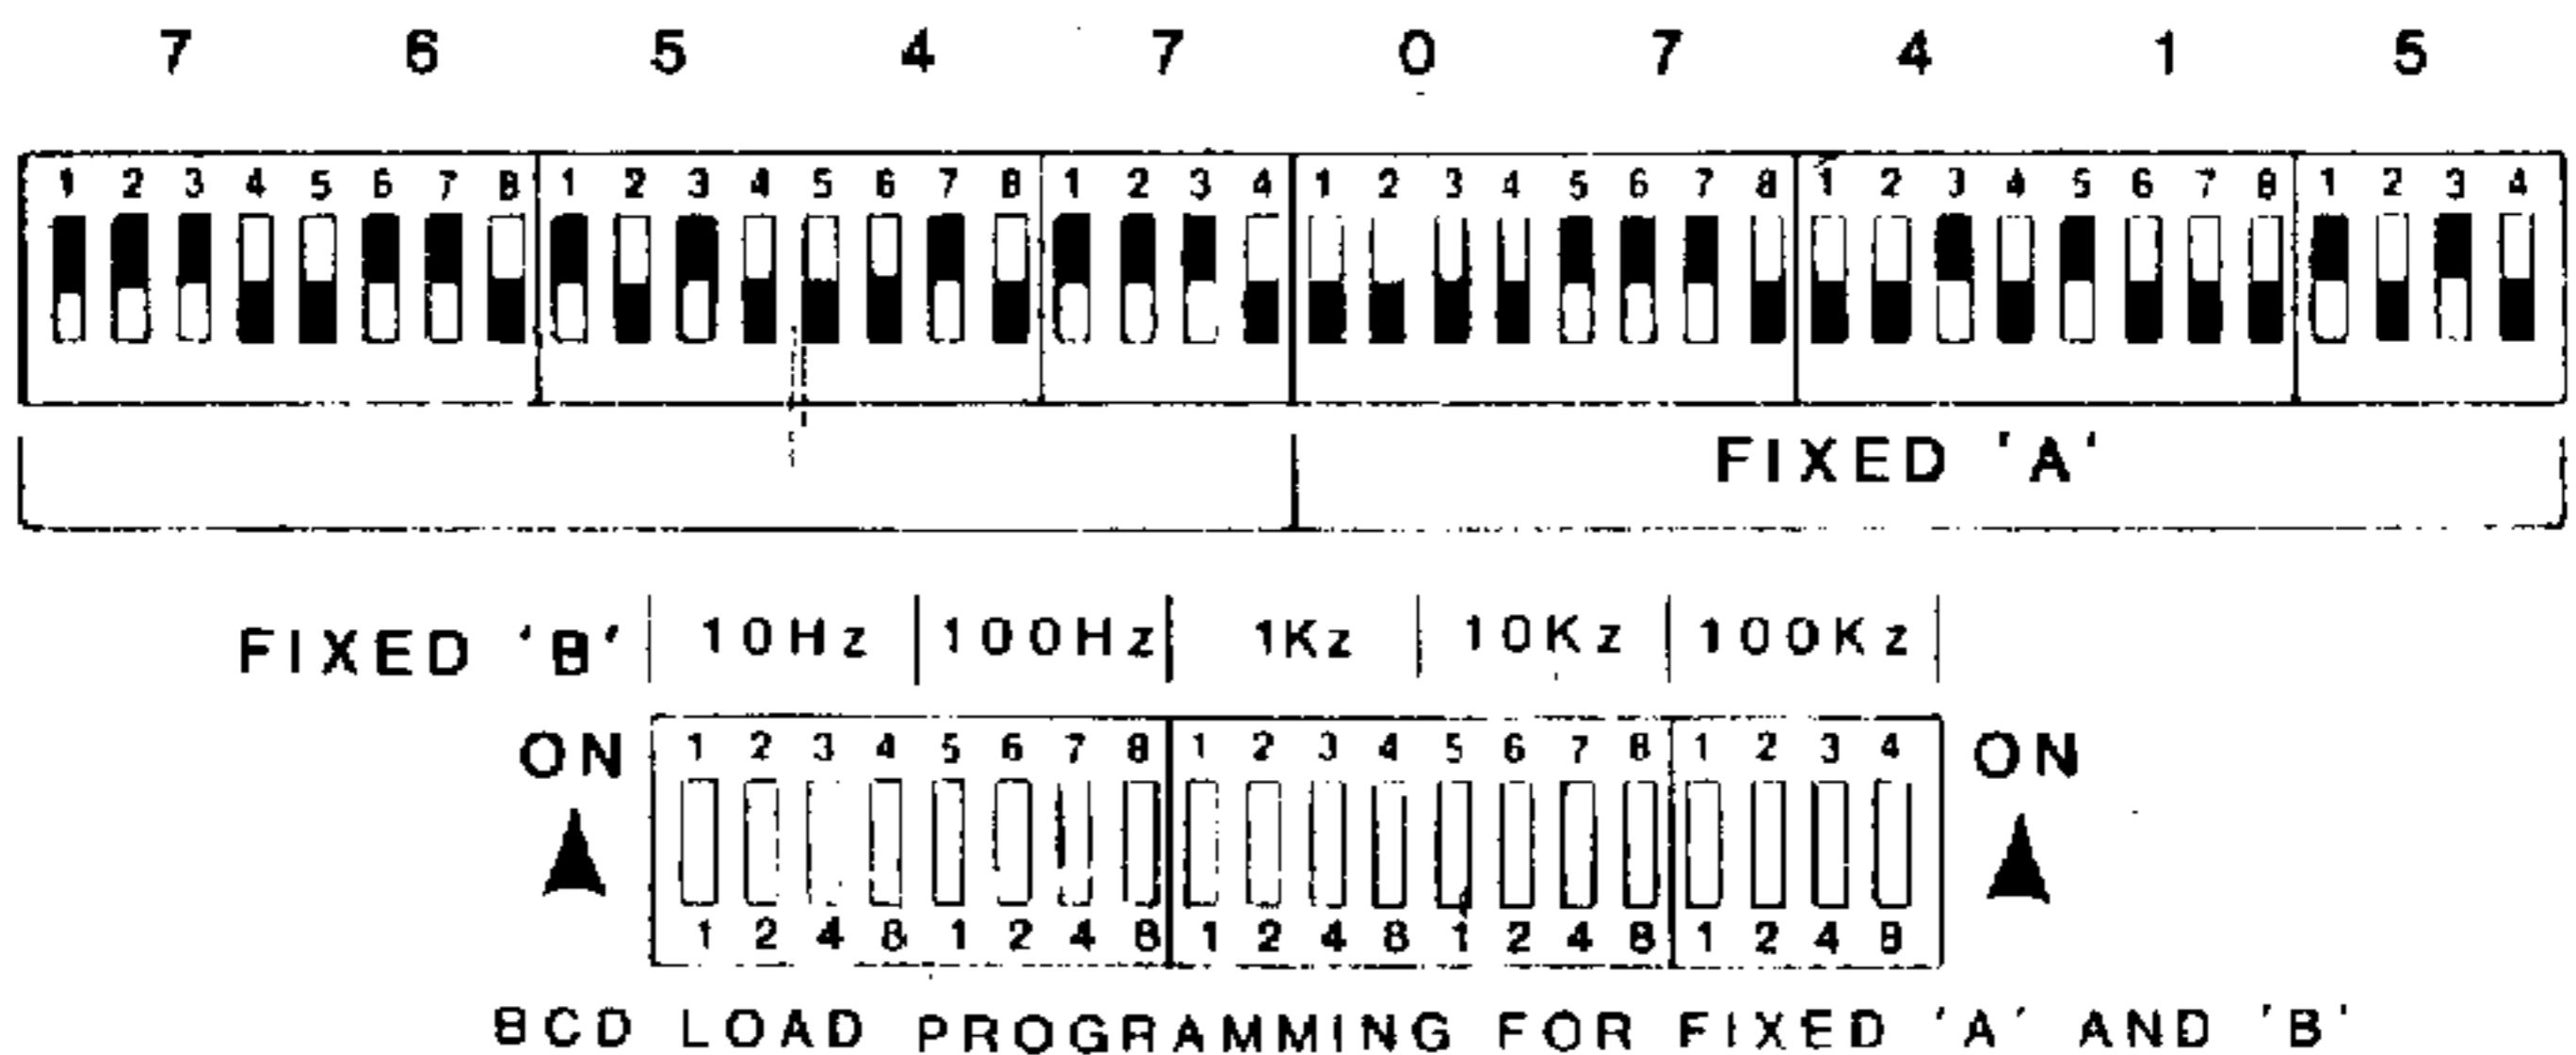

Figure 3-3 Programming For 7-Line
<p>FIXED B = 14345.67 kHz USB</p> <ol style="list-style-type: none"> <li>(1) 14345.67</li> <li>(2) 14000.00</li> <li>(3) <math>14000.00 - 200.00 = 13800.00</math></li> <li>(4) <math>14345.67 - 13850.00 = 49567</math></li> <li>(5) USB = 00000</li> <li>(6) <math>54567 - 00000 = 54567</math></li> <li>(7) <math>54567 + 20000 = 74567</math></li> <li>(8) See fig. 3-3(a)</li> </ol>	<p>FIXED A = 3.615.50 kHz CW</p> <ol style="list-style-type: none"> <li>3615.00</li> <li>3500.00</li> <li><math>3500.00 - 200.00 = 3300.00</math></li> <li><math>3615.50 - 3300.00 = 31550</math></li> <li>CW = -00080</li> <li><math>31550 - 00080 = 31470</math></li> <li><math>31470 + 20000 = 51470</math></li> <li>See fig. 3-3(b)</li> </ol>